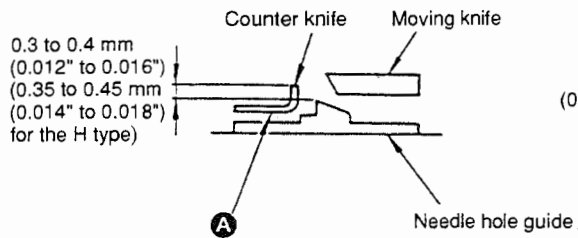

Fig. 5-14-2
- A) If the specified difference in height is not obtained between the needle hole guide and the counter knife blade, pry part **A** (Figs. 5-14-2, 5-14-4) out using a screwdriver to adjust the height of the needle hole guide with respect to the counter knife blade. (At this time, be sure that the blade point is parallel to the throat plate mounting surface.)